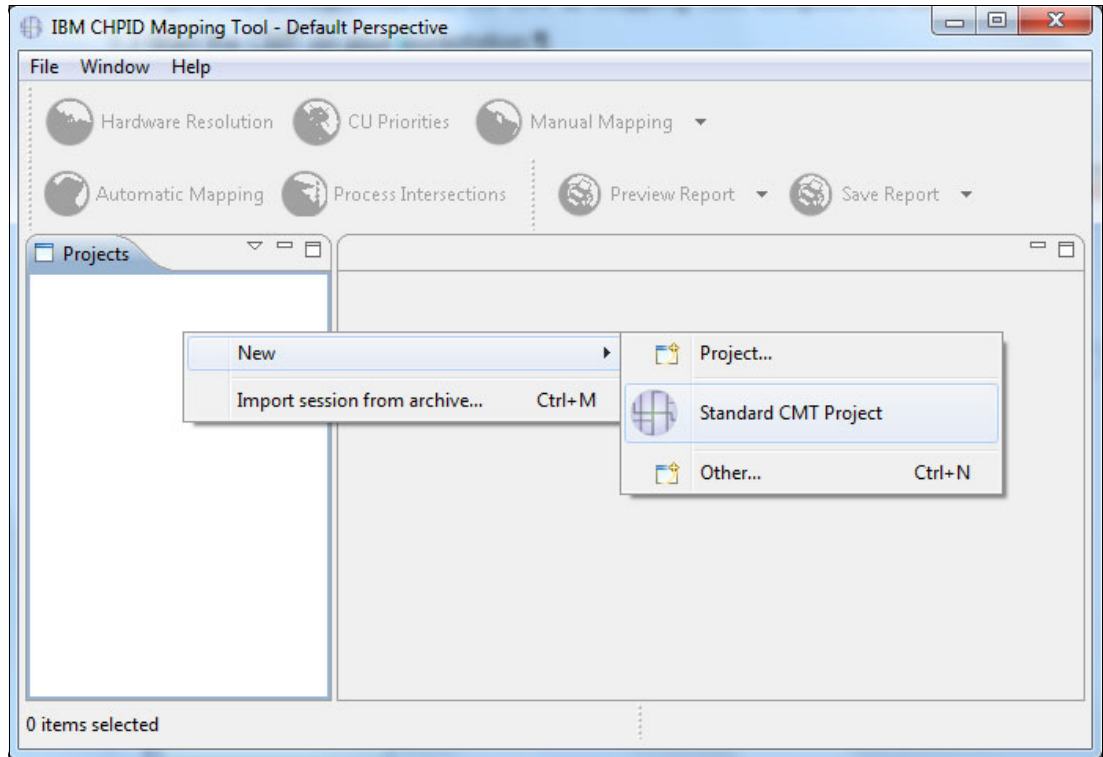

Figure 6-62 CMT - Creating a new CHPID Mapping Tool Project
2. Right-click the Projects pane and select **New** → **Standard CMT Project** (Figure 6-62).